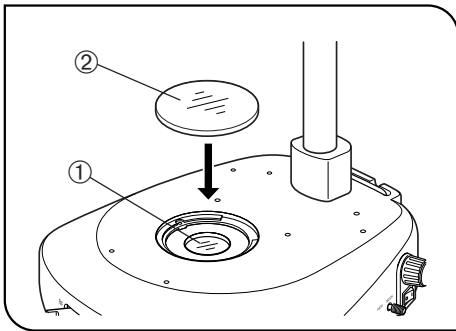

Fig. 21
1. Remove dust and dirt from the stage glass ② and gently drop it into the hole on the stage surface. (Fig. 21)